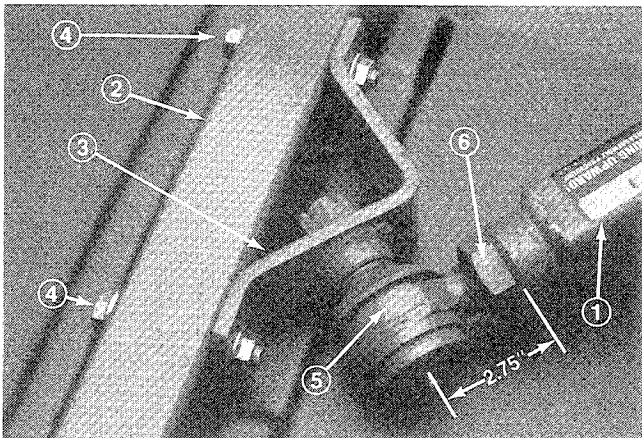

Figure 5
5. Secure ball joint mount to castor arm with (2) 7/16 – 14 x 3" lg. capscrews, 15/32" I.D. x 59/64" O.D. flatwashers and 7/16 – 14 flange nuts. Flatwashers to be positioned to outside of castor arm.
6. Tighten large jam nut securing ball joint to push arm (Fig. 5). When tightening jam nut, hold ball joint straight to permit proper oscillation during raising and lowering of cutting unit. Carefully remove wood block holding push arm down.